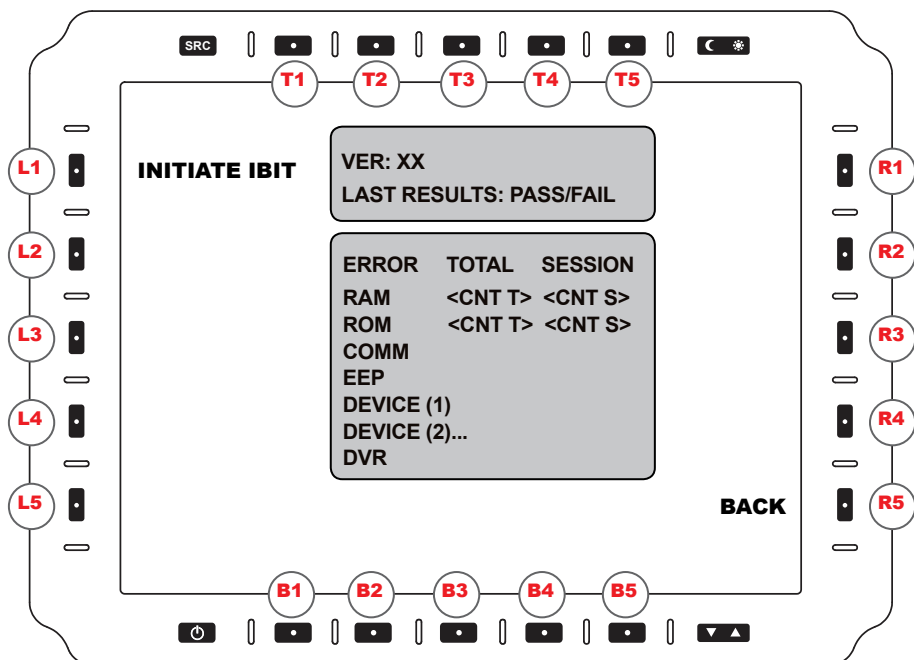

Figure 22
The DVR supports a Built-In-Test component, Initiate BIT (IBIT) (Figure 22). This process detects and isolates faults to help the user identify the operational readiness, or where necessary, identify degraded or failed system conditions. Results of failures are stored in memory. Access to the IBIT screen is through the Main Menu, Figure 8.
**INITIATE IBIT (L1).** Running Initiate BIT (IBIT) allows the user to confirm all systems are functioning. Results are shown as counts per category in the test log box in the center of the display screen. Select INITIATE IBIT (L1) to start the process (Figure 22).